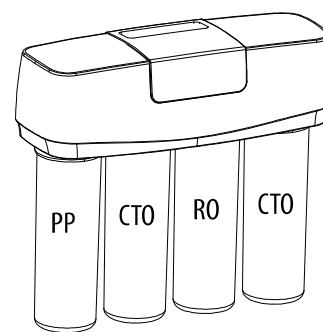

Fig 5
2. Install the other 3 filters same as the installation of PP filter.(Fig 5)